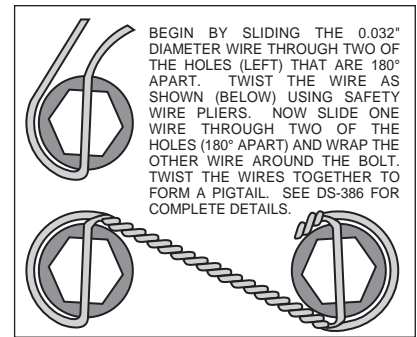

Figure 4. Safety Wire Diagram
- Apply red *Loctite*® 271 to bolt threads (2) before assembly of the caliper bracket (1) to backing plate face of spindle. Position the caliper mounting bracket (1) onto the spindle while positioning spacers (3) between bracket and spindle face. Slip the mounting bolts (2) into the threaded spindle holes, finger tighten. Torque two bolts (2) to 30 ft-lb. **NOTE:** Be sure the heads of the caliper bracket (1) insert nuts are facing outward toward the wheel.
- Install five new wheel studs (4) into the hub (5). Torque to 77 ft-lb. **NOTE:** There are two five lug patterns in the hub (5 x 4.50 and 5 x 4.75). Make sure of the correct hole pattern for the correct wheel application before installing studs into hub.
- Pack the large inner bearing cone (6) with high temperature disc brake bearing grease (available from your local auto parts store) and install into the backside of the hub (5).
- Install the grease seal (7) by pressing into the backside of the hub (5).
- Attach rotor adapter (8) to rotor (9) using six bolts (10). Torque bolts (10) to 180 in-lb. Safety wire bolts (10) using standard 0.032 inch diameter stainless steel safety wire as shown in Figure 4. Please refer to Wilwood's data sheet DS-386 (available at www.wilwood.com/pdf/ds386.pdf) for complete safety wire installation instructions.